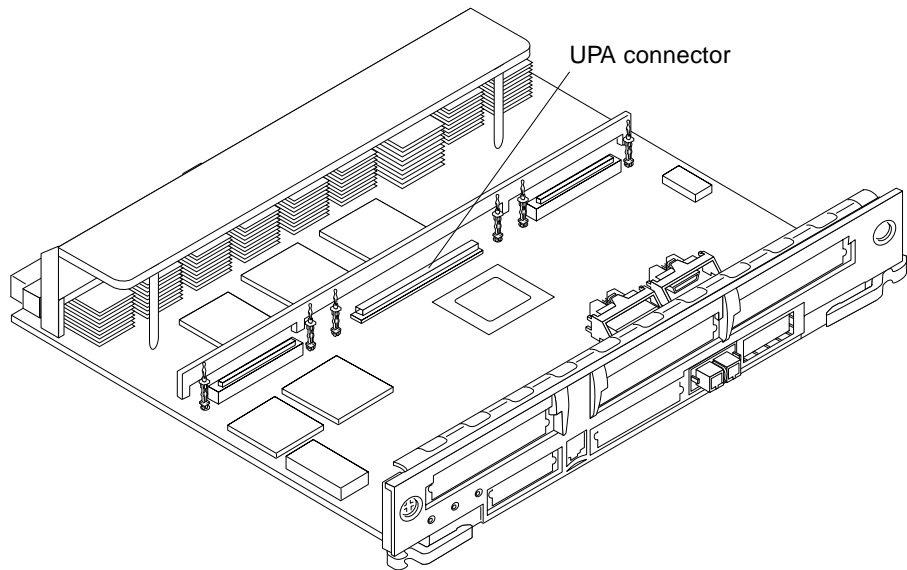

FIGURE 4-18 Graphics (UPA) Card Connector Location
The Graphics+ I/O board contains a single connector that accommodates graphics (UPA) cards (FIGURE 4-18).
4. **Locate the UPA connector for the card** (FIGURE 4-18).